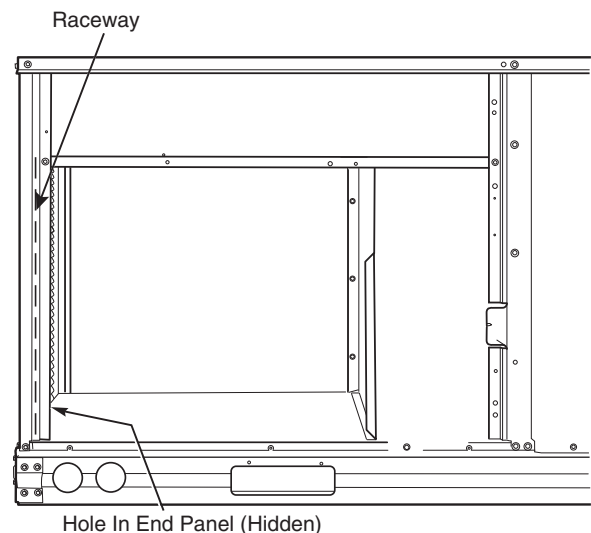

Fig. 39 — Field Control Wiring Raceway
All low-voltage wiring should be routed through the provided raceway (see Fig. 39) built into the corner post of the unit or secured to the unit control box with the electrical conduit in order to provide UL-required clearance between high-voltage and low-voltage wiring.
Pass the thermostat control wires through the hole provided in the corner post; then feed the wires through the raceway built into the corner post to the control box. Pull the wires over to the terminal strip on the upper-left corner of the Unit Control Board. See Fig. 39.
2. Feed wires through the raceway built into the corner post (see Fig. 39) to the 24-v barrier located on the left side of the control box. The raceway provides the UL-required clearance between high-voltage and low-voltage wiring.